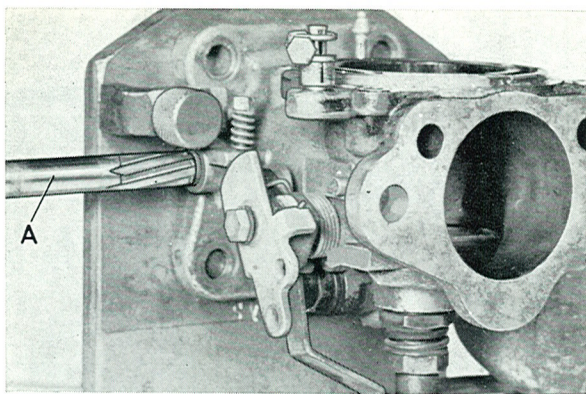

Fig. 2-109. Reaming the bush
5. Turn the stand pin a further 90° and ream the driven-in bushes with reamer SVO 2401, see Fig. 2-109.